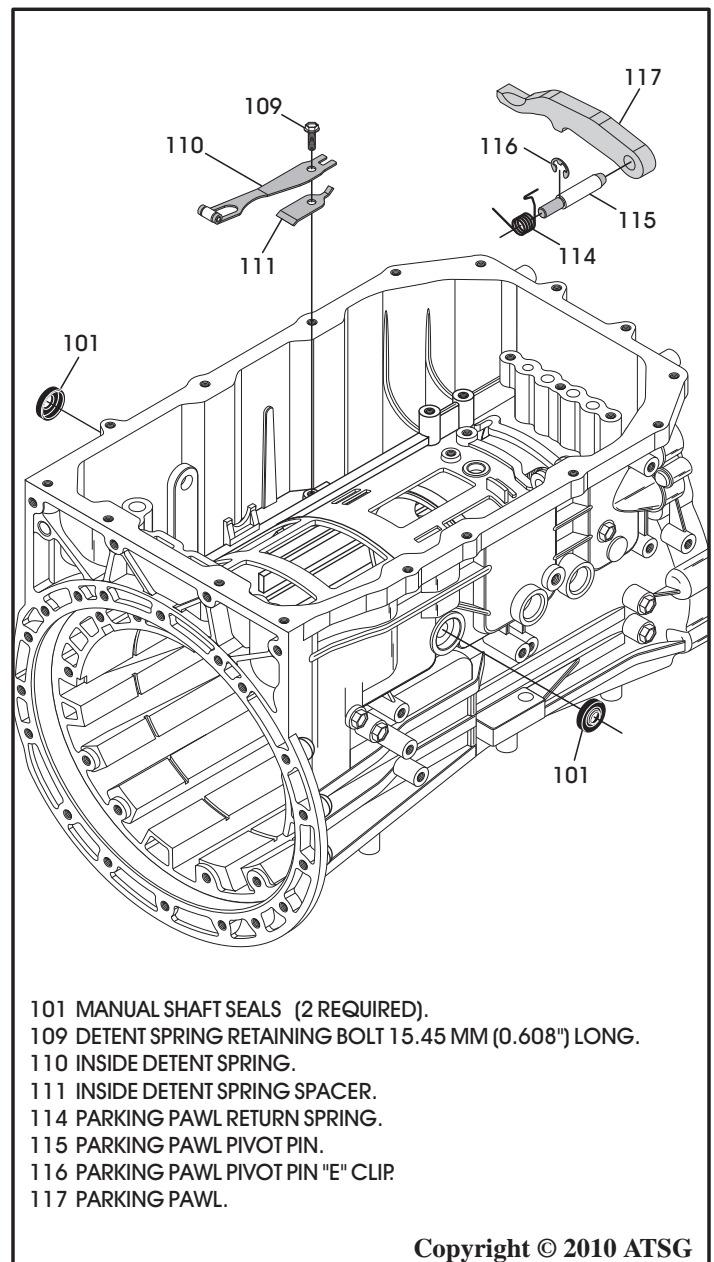

Figure 82
9. Install the inside detent lever spacer and detent spring, if it was removed (See Figure 82), and torque to 11 N·m (97 in.lb.).
10. Install **two** new manual shaft seals, as shown in Figure 82.
11. Install the parking pawl and park pawl pivot pin into the case, as shown in Figure 82.